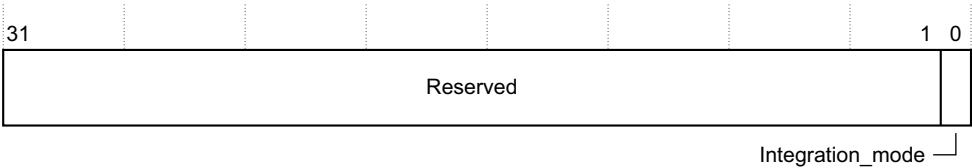

Figure 3-164 ITCTRL Register bit assignments
- Figure 3-164 shows the ITCTRL Register bit assignments.